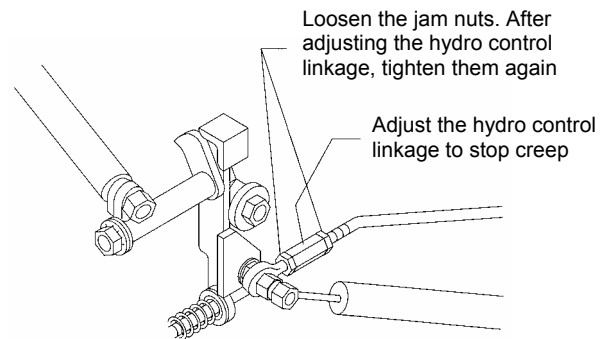

Figure 29. Adjusting the hydro control linkage
5. Loosen the jam nuts on the ends of the coupler (*Figure 29*).